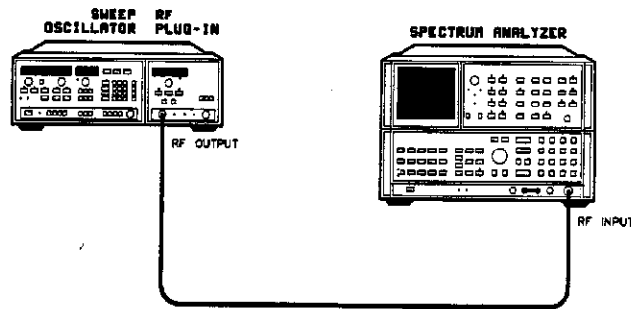

Figure 4-10. Square-Wave On/Off Ratio and Symmetry Test Setup
1. Connect the equipment as shown in Figure 4-10. Press **[INSTR PRESET]** on both the sweep oscillator and the spectrum analyzer. Allow the equipment to warm up for one hour.